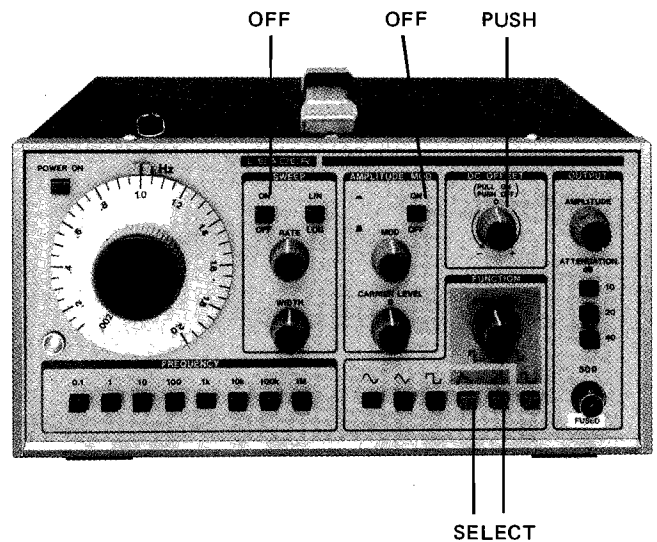

Figure 5-5. Sawtooth Operation
1. Follow paragraph 5-2-1, but depress the \searrow or \nearrow push-buttons for a falling or rising voltage ramp. Waveform symmetry is fixed at a value of 15:85 or 85:15. See Fig. 5-5.